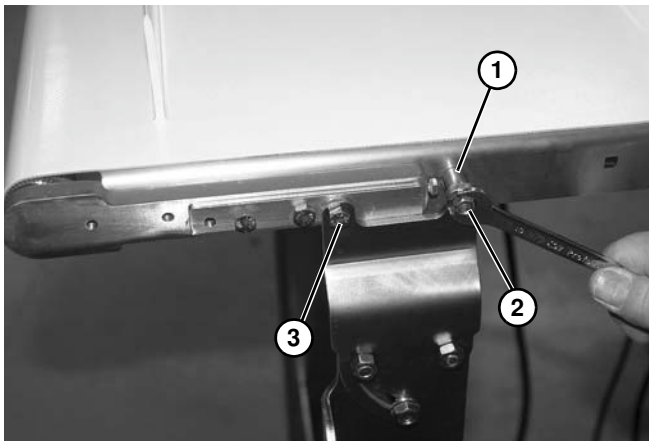

Figure 20
- Drive End: Attach stand to the conveyor frame with one spacer (Figure 20, item 1) using a carriage bolt and nut (Figure 20, item 2), and a screw (Figure 20, item 3) on each side.